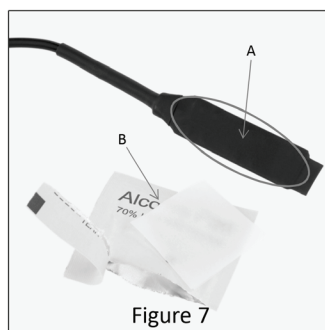
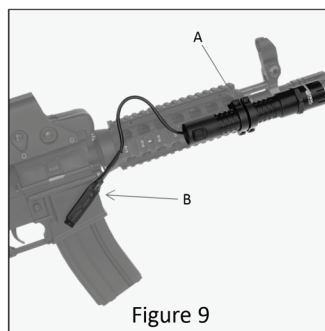

Figure 7
Figure 9
9. Test fit the Quad Lock Mount on to the mil spec Picatinny or Weaver rail of the long gun (Figure 9-A). At the same time, determine the desired location of the Remote Pressure Switch (Figure 9-B). NOTE: The Remote Pressure Switch may be attached to any clean, dry flat surface on the long gun. The location indicated in Figure 9 is just one possibility. The actual location on your long gun will be determined by your weapon's configuration and by your preferences.
10. Once the location of the Quad Lock Mount (Figure 9-A) and the Remote Pressure Switch (Figure 9-B) have been determined, clean the location on your weapon where the Remote Pressure Switch will be located as well as the inside surface of the Remote Pressure Switch (Figure 7-A) using the supplied Alcohol Swab (Figure 7-B).
12. Attach the Quad Lock Mount with the light installed onto the mil spec Picatinny or Weave rail of your weapon (Figure 9-A)
13. Peel back the paper backing on the hook and loop Pressure Sensitive Adhesive Strip and press it into place on the previously cleaned area on your long gun (Figure 9-B).